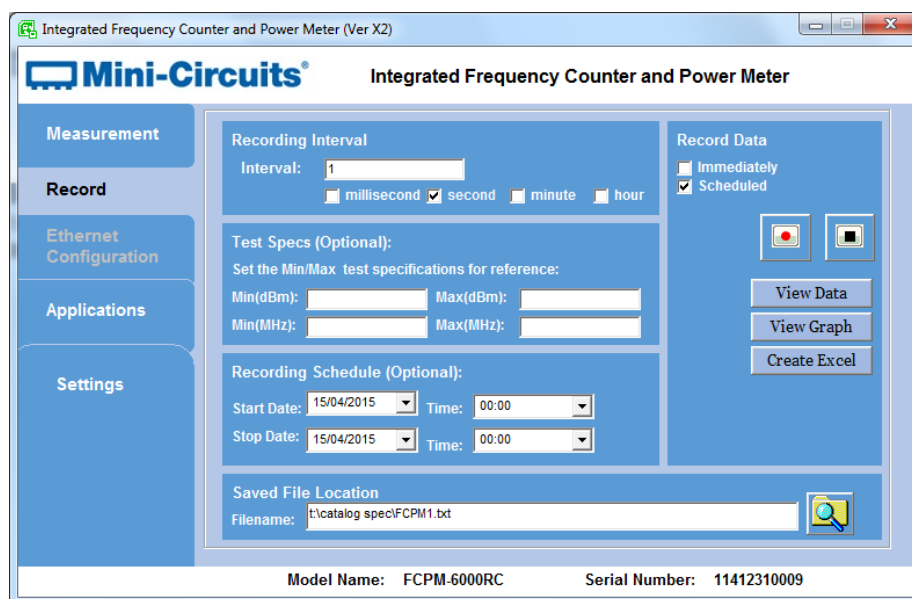
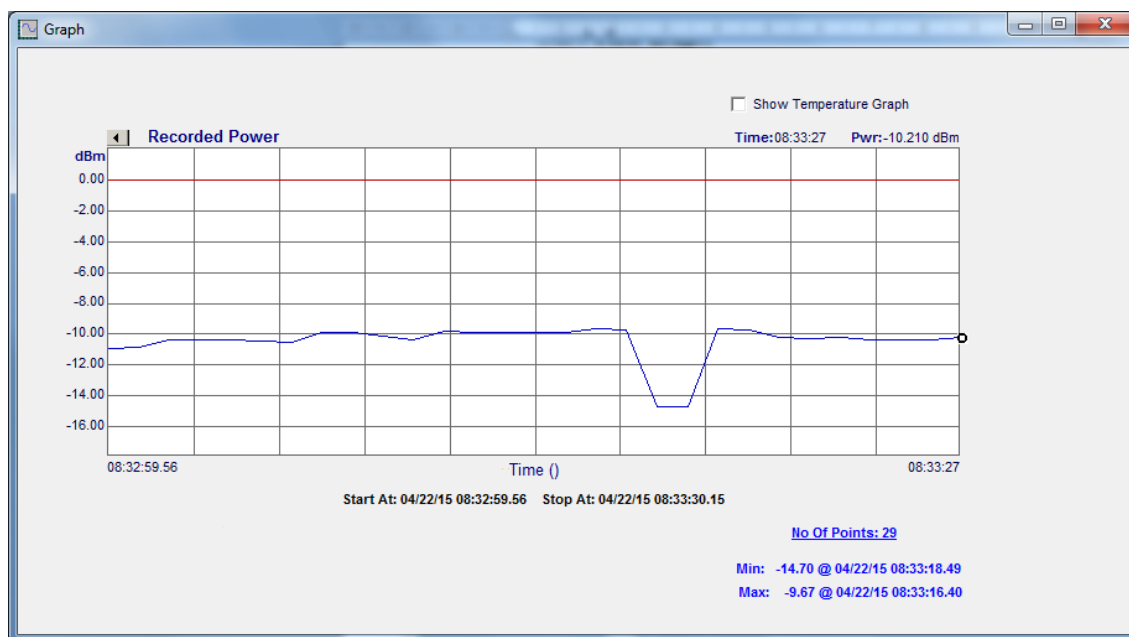

Figure 3.6: Data Record Screen
Figure 3.6.4: View Graph Window
3.6.1 Center column(Fig. 3.6)
3.6.2 Right Column (Fig. 3.6)
Clicking on the 'View Graph' button in the data record window (**Fig 3.6**) will open a graphical presentation of the recorded data(**Fig 3.6.4**). Default presentation is of power only, using the same units as the data was recorded in, but user can select to present both power and temperature by checking 'Show temperature graph' or change the power units by clicking on the arrow next to the graph title.